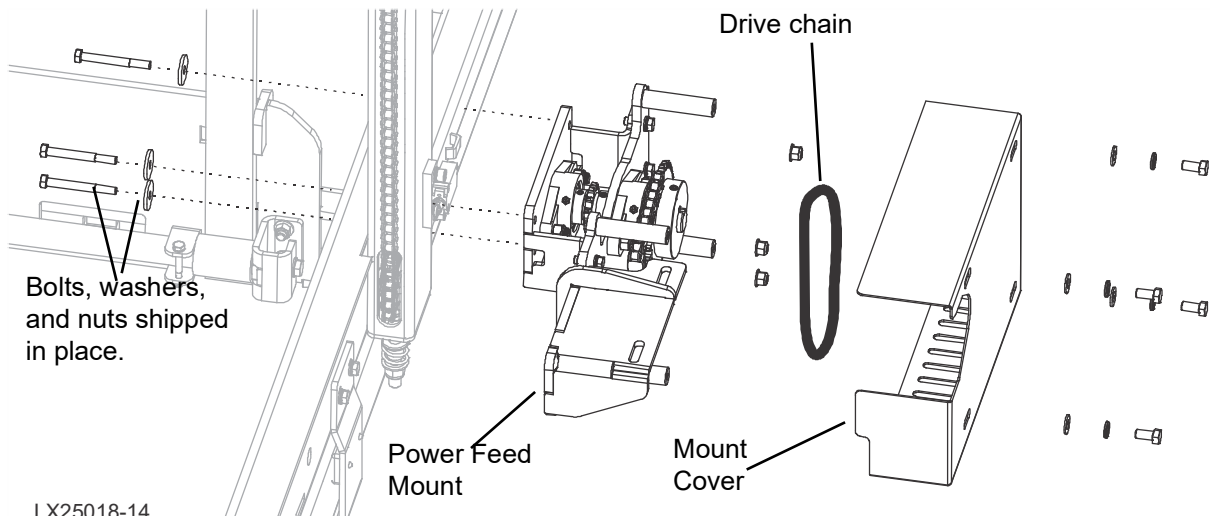

FIG. 3-16
3. Assemble the Power Feed mount (without cover) as shown in Fig 3-16.
See Figure 3-16.
10. Install the Mount Cover. (See Fig. 3-16.)